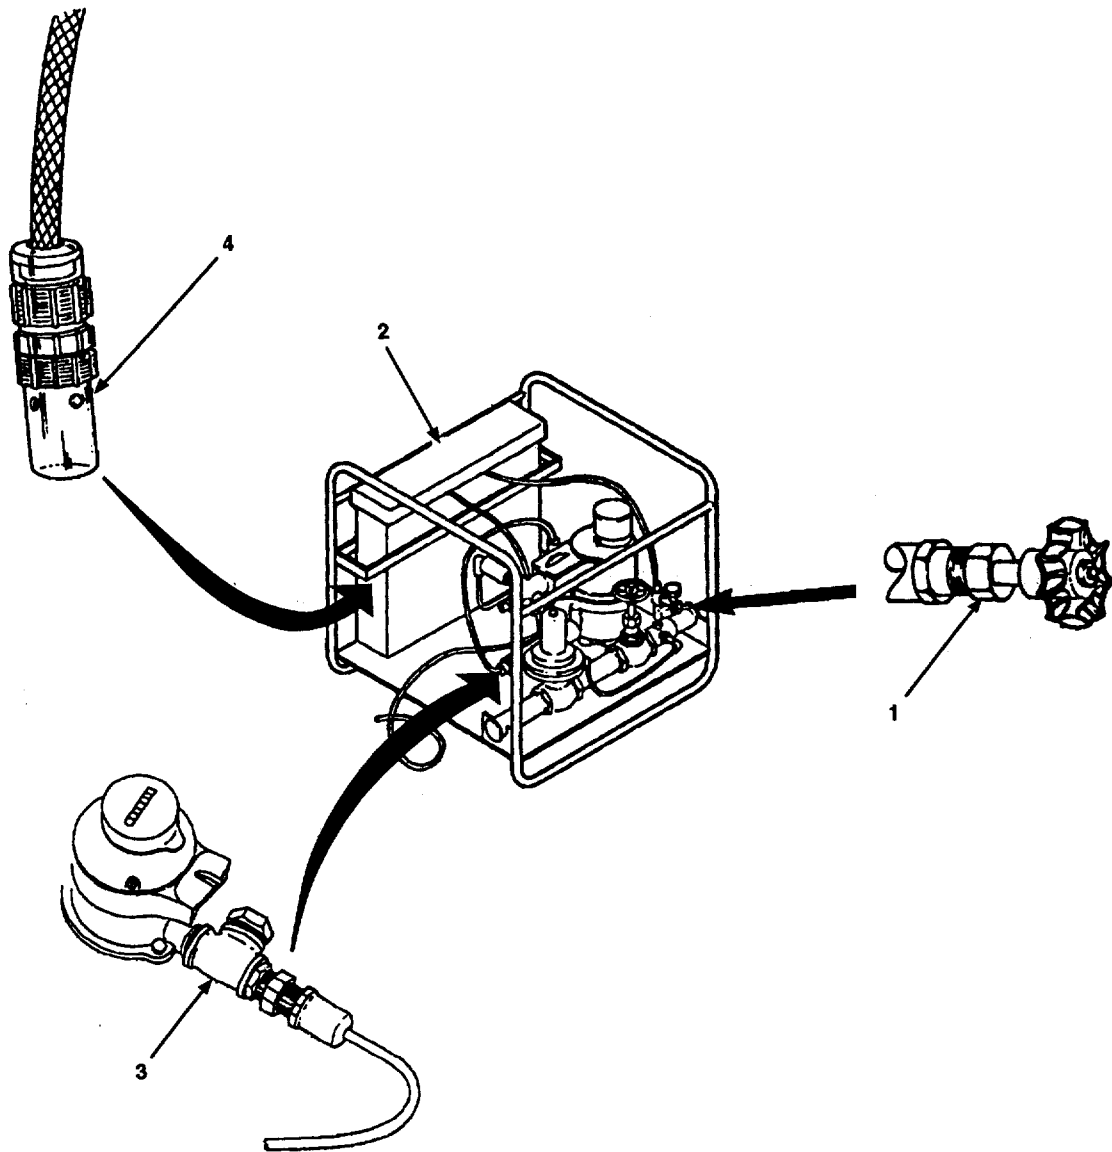
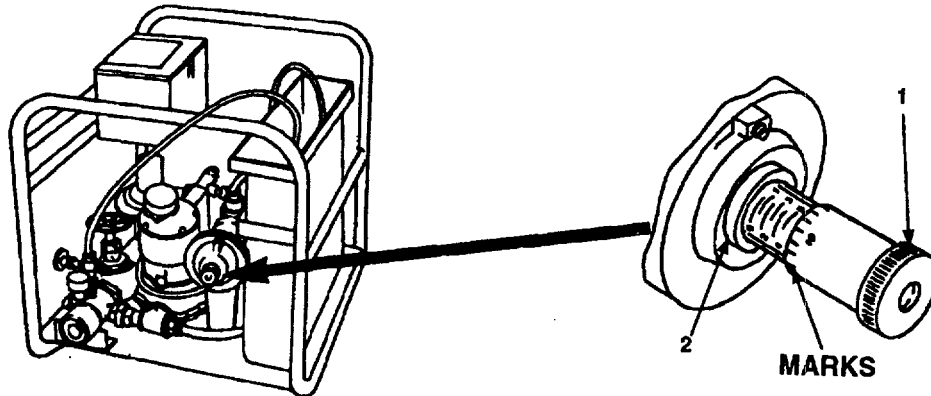
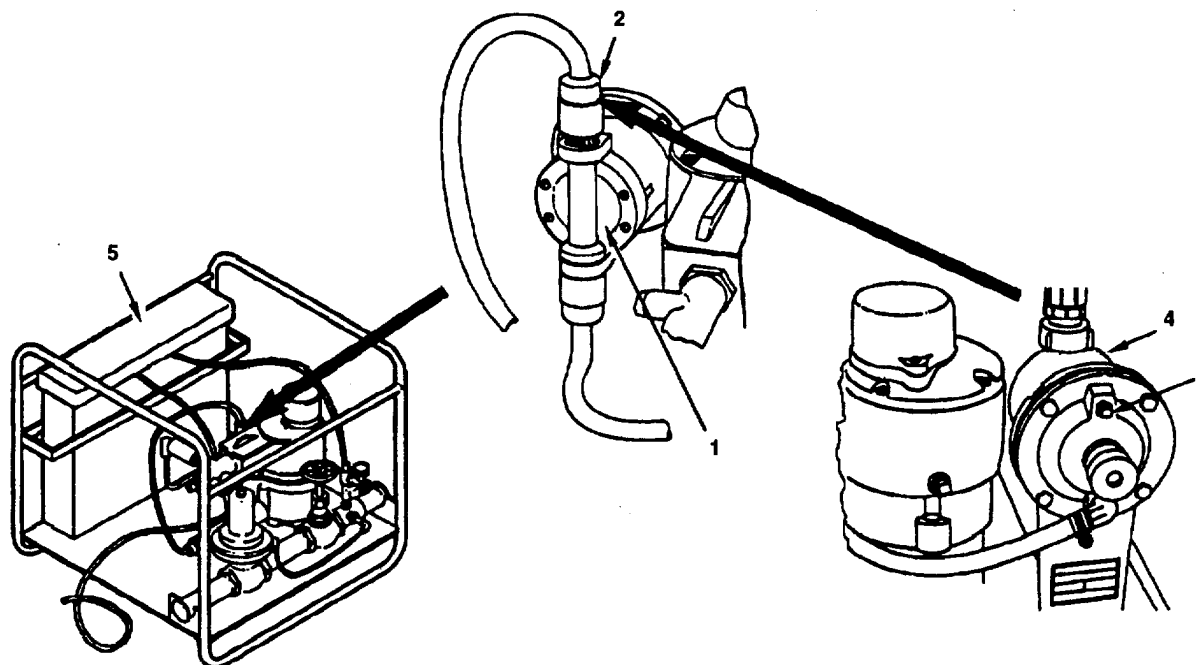

Figure 2-45. Hypochlorination Unit Model 1955-1 Controls and Suction Foot.
Figure 2-47. Stroke Adjust Thimble Operation.
Figure 2-48. Correcting Air-Bound Unit After Startup.
- a. Open water reservoir fill valve (Figure 2-45, 1) and fill reservoir (2). Close water reservoir fill valve (1) when water reaches "FULL" mark on reservoir (2).
- h. Turn stroke adjust thimble (Figure 2-47, 1) left two and one half revolutions. Stroke adjust thimble (1) will be set at 5 on micrometer barrel scale (2).
- i. If hypochlorite feeder (Figure 2-48, 1) becomes air-bound after startup:
- (1) Loosen top hose connection (2) on hypochlorite feeder (1).
- (2) Set stroke adjust thimble (Figure 2-47, 1) to 10 on micrometer barrel scale (2). This allows air to escape through small vent (Figure 2-48, 3) in top of pump (4).
- (3) When air is vented, set stroke adjust thimble (Figure 2-47, 1) back to 5 on micrometer barrel scale (2).
- (4) Tighten top hose connection (Figure 2-48, 2) on feeder (1).
- (1) Turn stroke adjust thimble (Figure 2-47, 1) setting to 2.5 on micrometer barrel scale (2).
- (2) Run unit for 10 minutes and take another residual test, para 2.5.5.7.
- (3) If reading remains high, add water to reservoir (Figure 2-48, 5)
- (1) Turn stroke adjust thimble (Figure 2-47, 1) setting to 7.5 on micrometer bar scale (2).
- (2) Run unit for 10 minutes and repeat residual test, para 2.5.5.7
- (3) If reading remains low, continue to adjust stroke setting up and perform residual tests until desired residual is obtained.
- m. When residual test, para 2.5.5.7 gives desired reading, no adjustments to unit are required. Check level of solution in reservoir every 30 minutes. When level drops within 2 or 3 inches of foot valve (Figure 2-45, 4), prepare new batch of solution in reservoir (2).